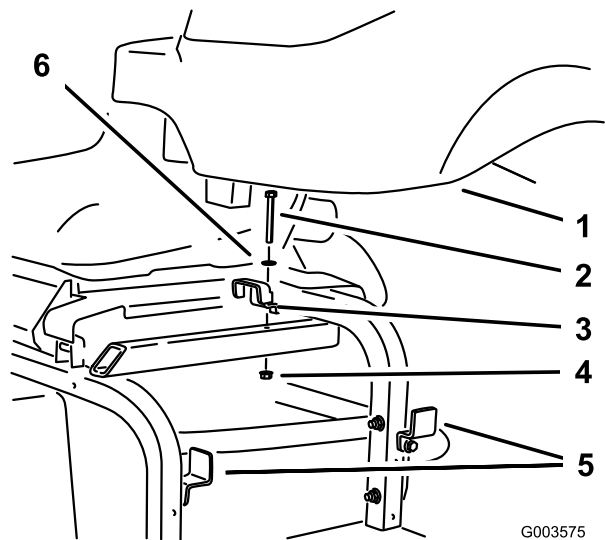

Figure 7
- Remove the top hydraulic tank bracket from the machine frame and loosen the two brackets on the side of the frame (Figure 7). Remove and retain the tank but discard the top bracket, bolt, washer and nut.